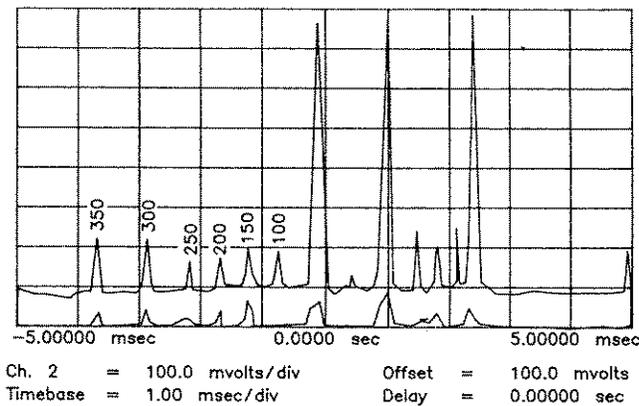

Figure 5-15b. Frequency Response of Notch Filters, 765 MHz Setting.
- 5. The oscilloscope display for nonadjusted Notch Filters is shown in Figure 5-15b.
6. Observe the oscilloscope Chan 2 display (beat notes) and refer to Figure 5-15b. Adjust A4L38 (100 MHz Notch Filter) until you see the 100 MHz beat note change on the display, then adjust the beat note for minimum amplitude.